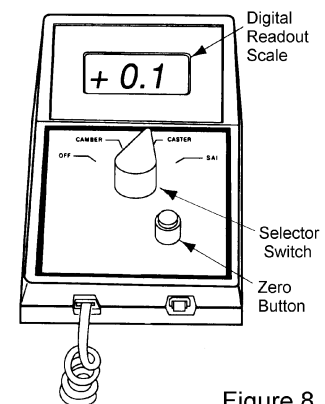

Figure 8
- 3) Set the selector to CASTER (See Fig. 8).